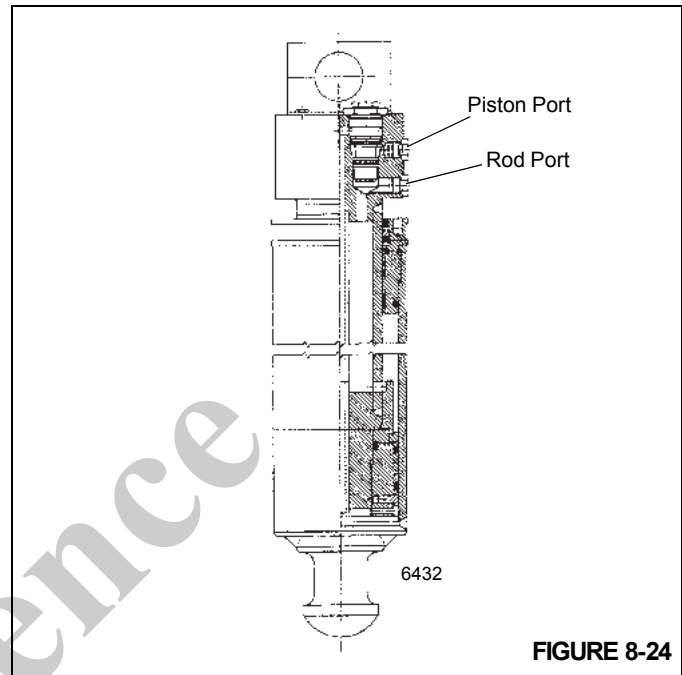

FIGURE 8-24
2. Remove the rod side cylinder hose from the suspected leaking jack cylinder (Figure 8-24). Oil will flow until the cavity in the cylinder port block empties. Once the port block cavity empties, oil should stop flowing from the rod side port.
2. Remove the piston side cylinder hose from the suspected leaking jack cylinder (Figure 8-24). Oil will flow until the cavity in the cylinder port block empties. Once the port block cavity empties, oil should stop flowing from the piston side port.